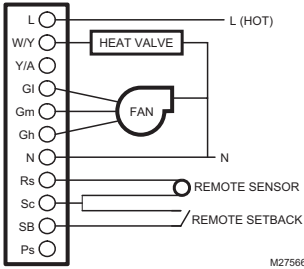
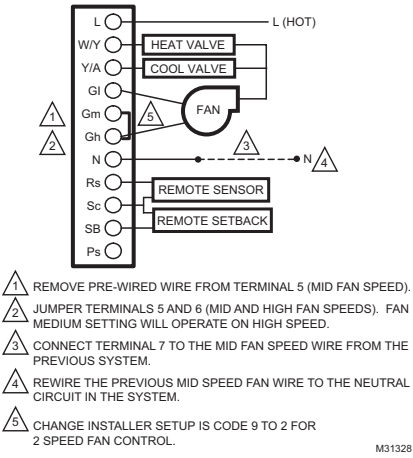

Fig. 7. Two pipes Heat-only wiring diagram (120/240 Vac shown).
Fig. 13. Wiring diagram when missing a wire for electromechanical retrofit (120/240 Vac shown).
- TB6575A1000 and TB6575B1000 fan coil thermostats, which are 120/240 Vac powered. Refer to Fig. 7–Fig. 13, beginning on page 7.